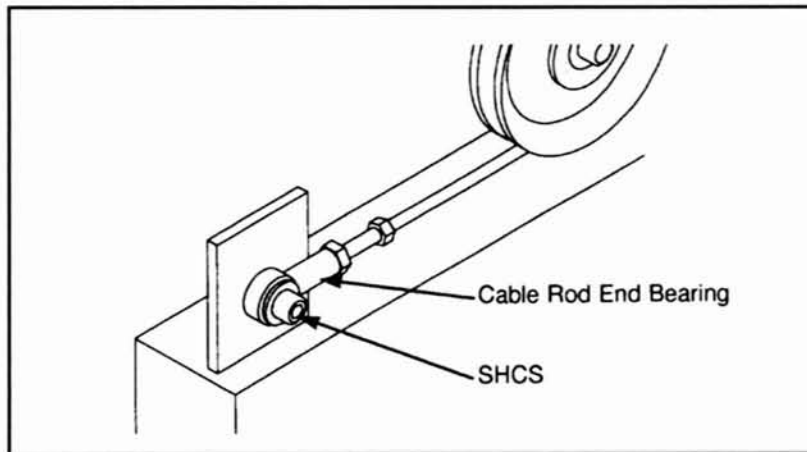

Figure 10
1. Using a 9/16" open end wrench, loosen jam nut on rod end bearing several turns. See Figure 10.